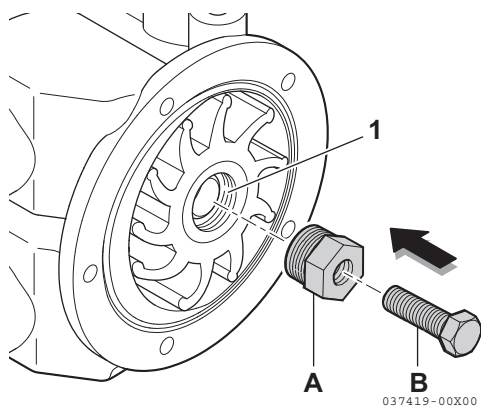
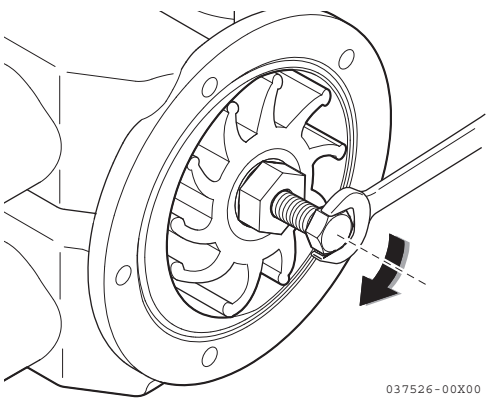

Figure 10
Figure 11
*Note: When replacing a used impeller with a new one, the impeller must have an M22 × 1.5 thread (1, **Figure 10**). Turn the M18 screw-side of the impeller to the cover side and install (**Figure 11**).*